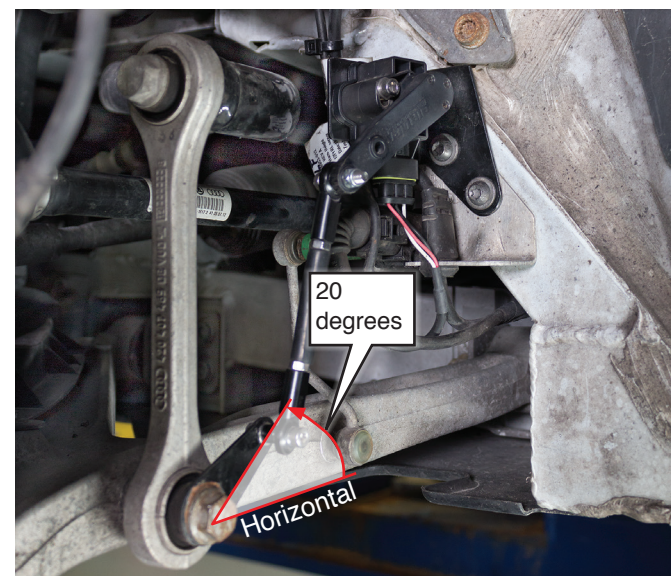

fig. 4
- Remove the lower sway bar end link bolt. Install the lower bracket (C). The bracket goes between the bolt head and the end link. Attach the bracket at approximately a 20-degree angle above horizontal (Fig. 4). See chart for torque specifications.
- Attach the height sensor to the sensor bracket with the supplied hardware. It may be necessary to trim the screws (Figs. 4 & 5). See chart for torque specifications.
- Install the linkage assembly using the supplied hardware (Figs. 4 & 5). See chart for torque specifications.